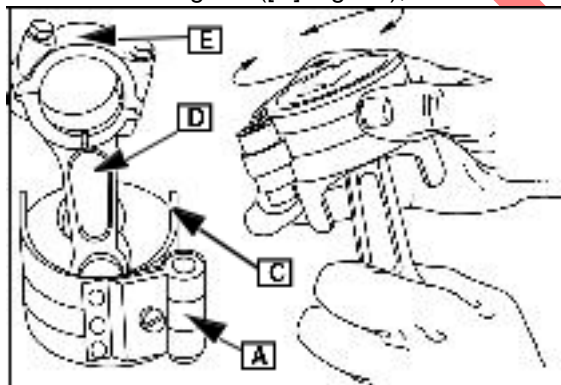

Fig. 19
Place piston and ring compressor upside down on bench with projections ([C] Fig. 19) on compressor facing rod.
Remove connecting rod cap (E) from connecting rod ([D] Fig. 19), if installed.